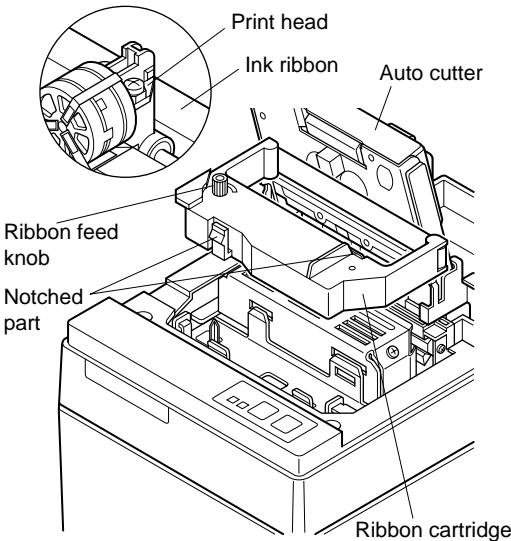

Fig. 4-10 Loading the ribbon cartridge
④ Place the ribbon cartridge in the direction shown in Fig. 4-10 and press it down to load it. If loading of the ribbon cartridge is not satisfactory, press down the cartridge while rotating the ribbon feed knob in the direction of the arrow.